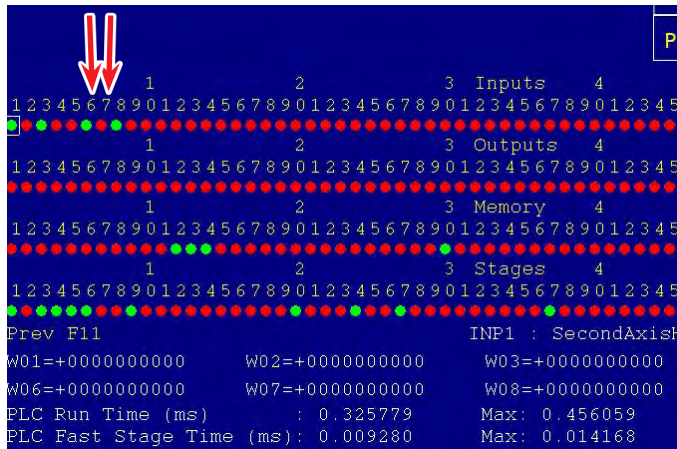

FIGURE 10
5. Now we are going to check to see if the control is receiving a signal from the touch probe. On the key pad, press (Alt I) and the Input screen will show on the control (see Figure 10).